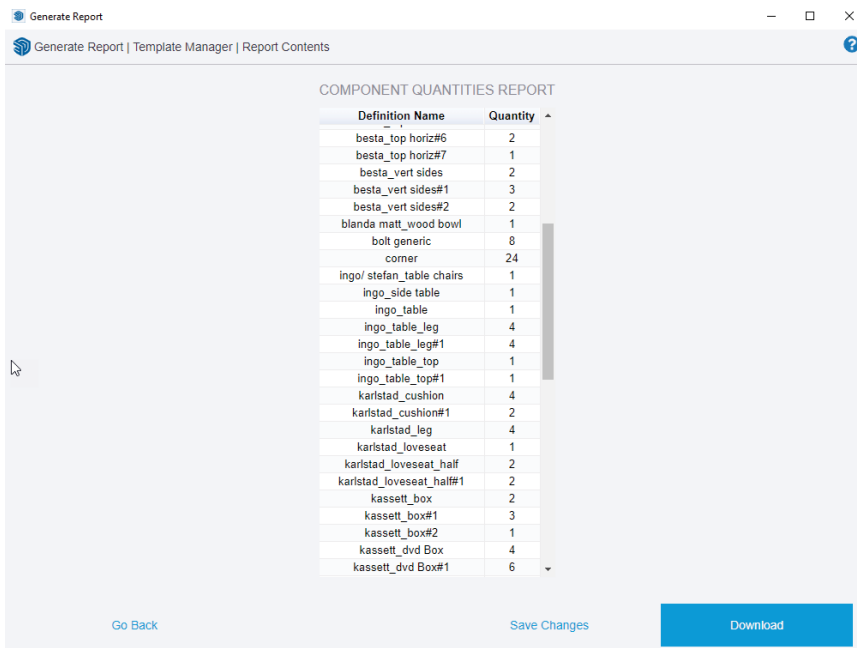

Figure 1-12: A materials list of objects in the model.
- ▶ *Generate reports, which are tables of information of the objects in the model.* These tables can be lists and quantities of materials that are helpful for cost estimating, such as deciding how much paint to buy based on the area of walls in the model. Reports are generated with one click and downloaded as a CSV (Excel) file (Figure 1-12).